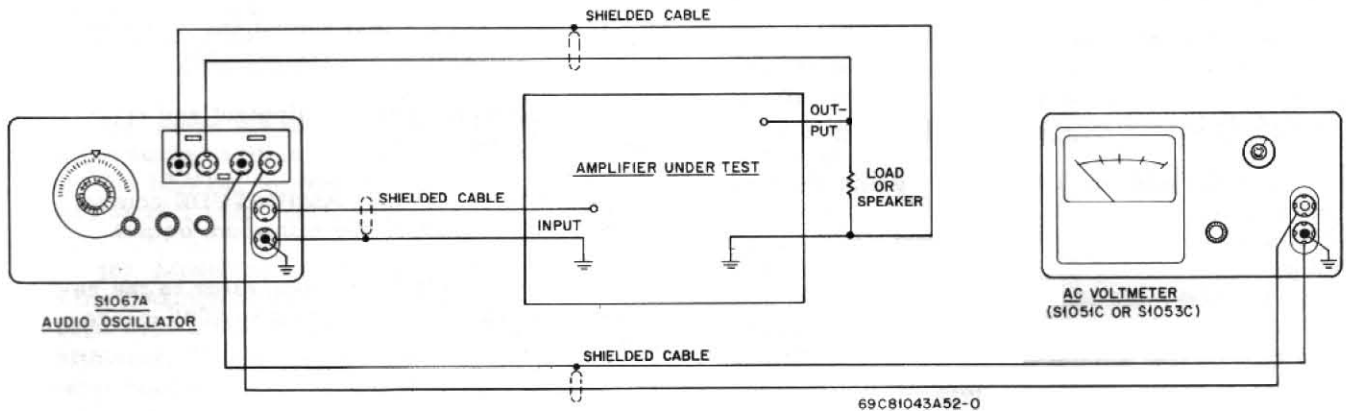

Figure 1.
(1) Connect the output of the audio oscillator to the input of the amplifier under test. Refer to Figure 1.
(2) If the output power of the circuit under test is not known, connect a rated resistive load or speaker across the output of that circuit. Across this load connect an a-c voltmeter (Motorola Model S1051C, S1053C or equivalent).